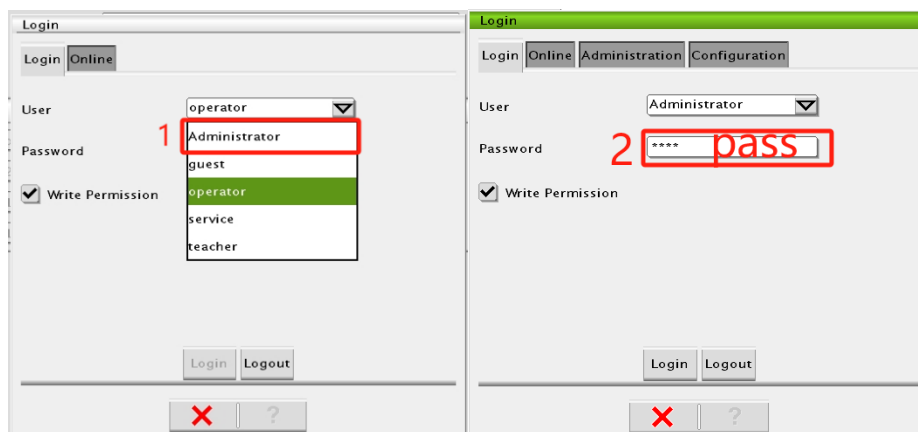
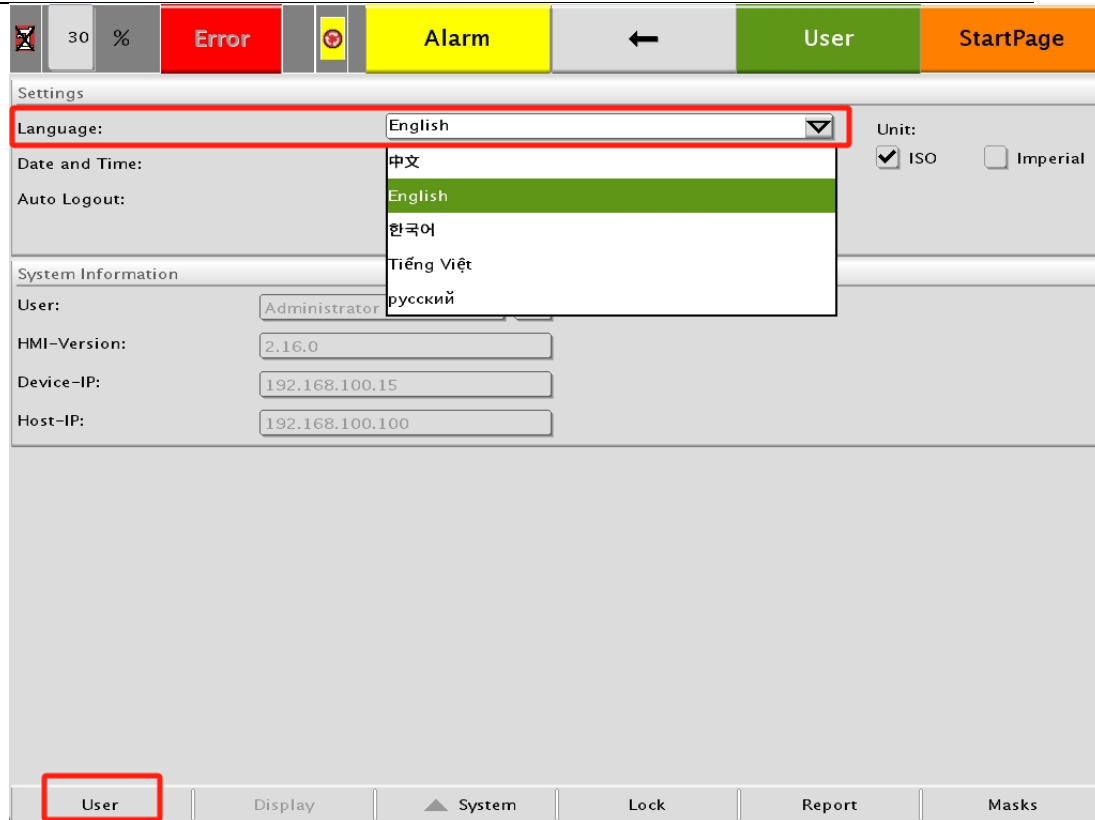

Figure 4
Figure 5
⑦User: (1) You can view the current privilege level or switch the privilege level, such as switching the highest level of administrator "Administrator", in Figure 5, bottom left click on User pop-up window in Figure 4 below, you need to enter the password, the password is pass.(2) You can change the language settings, as shown in Figure 5 below.